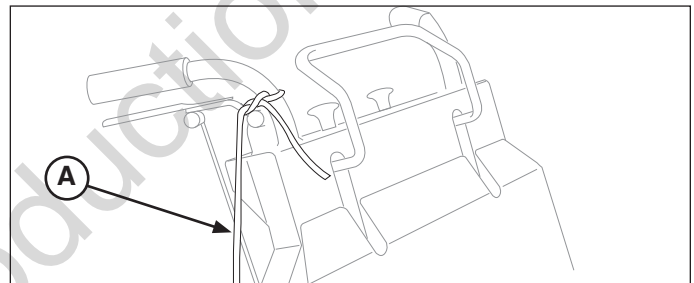

Figure 10. Tying the Bagger Dump Rope
1. Tie the bagger dump rope (A, **Figure 10**) to the handle bars of the machine as shown in Figure 10. Take care to ensure that enough slack of the rope is used so that rope does not rest against any hot surfaces or any moving parts that it could possibly be entangled in. Also make sure that the rope is NOT so tight that prevents the collector bag from sitting firmly against the bagger mount weldment.
2. Untie the bagger dump rope (**Figure 10**) from the handle bar.